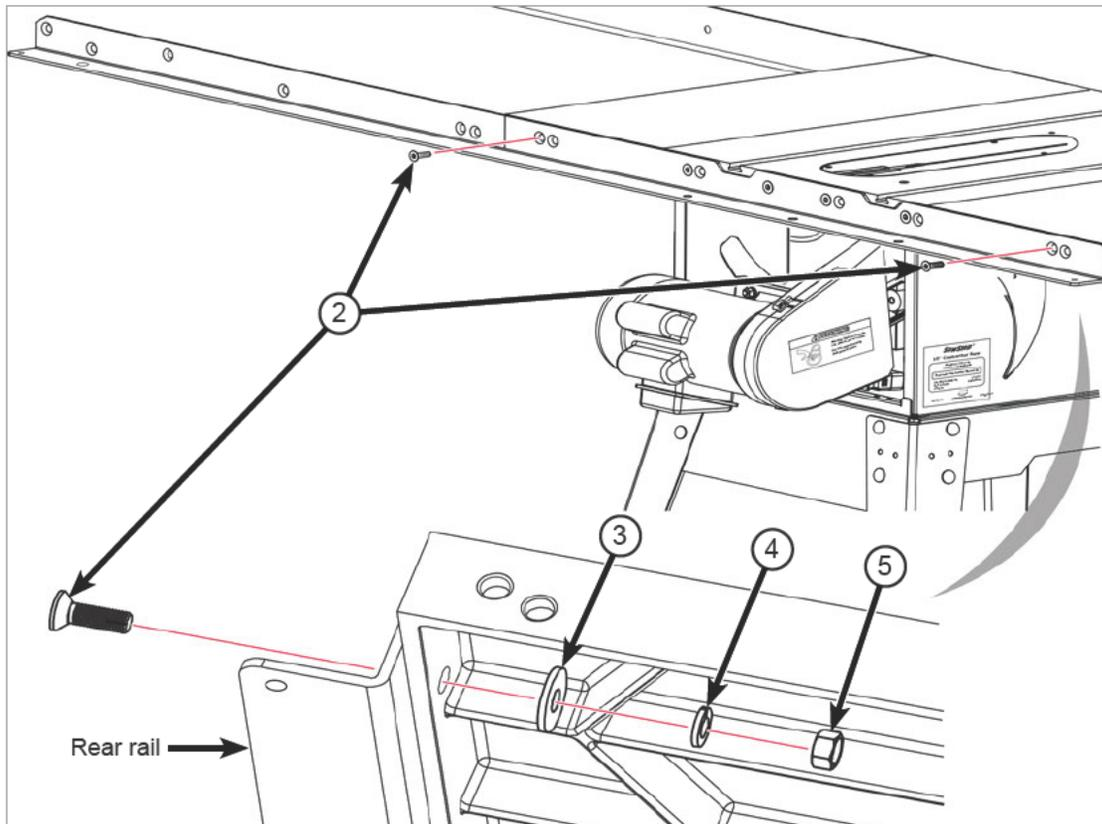

Fig. 13
5. Finish mounting the rear rail to your saw by inserting an M8 x 25 (2) countersunk socket head bolt through the open hole at the end of each extension wing, and placing an M8 washer, an M8 lock washer, and an M8 hex nut on the threaded end of each bolt (See Fig. 13). Hand tighten the nuts; do not fully tighten them.